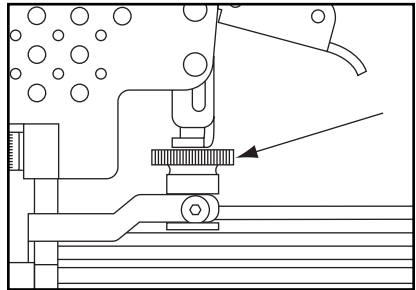

Figure 3. Depth adjustment wheel.
1. Rotate the depth adjustment wheel (shown in **Figure 3**) clockwise to increase the nail depth.